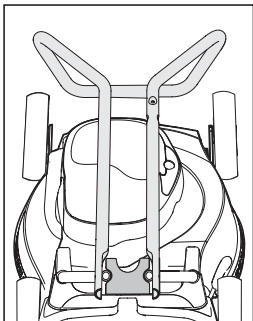

Fig 1.
2. Lay the upper handle across the engine cowl of the lawnmower, with the bend facing down (see fig 1).